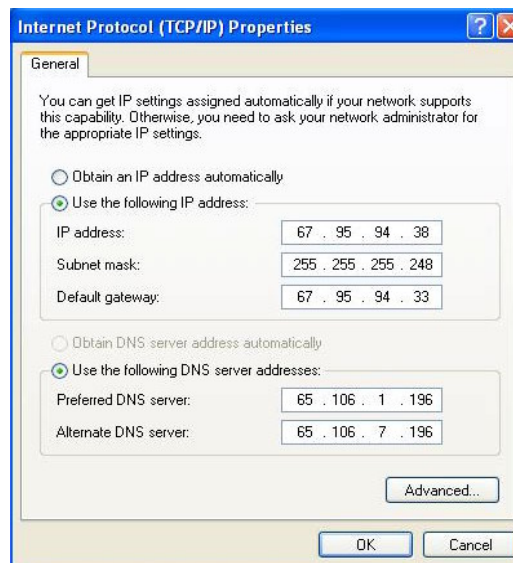

Figure 4-15 TCP/IP Properties
2. Select the Internet Protocol (TCP/IP) component from the list and click the "Properties" button. This will open the TCP/IP Properties window (Figure 4-15).